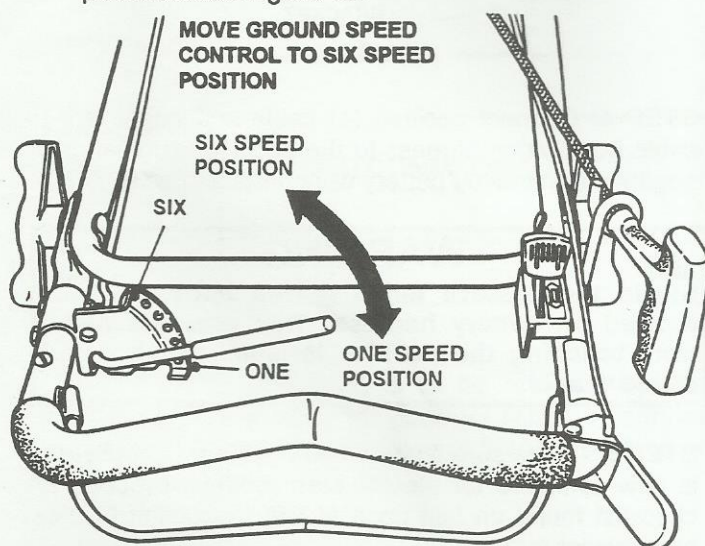

FIGURE 12
A. Place speed control rod in the number six speed position. See Figure 12.